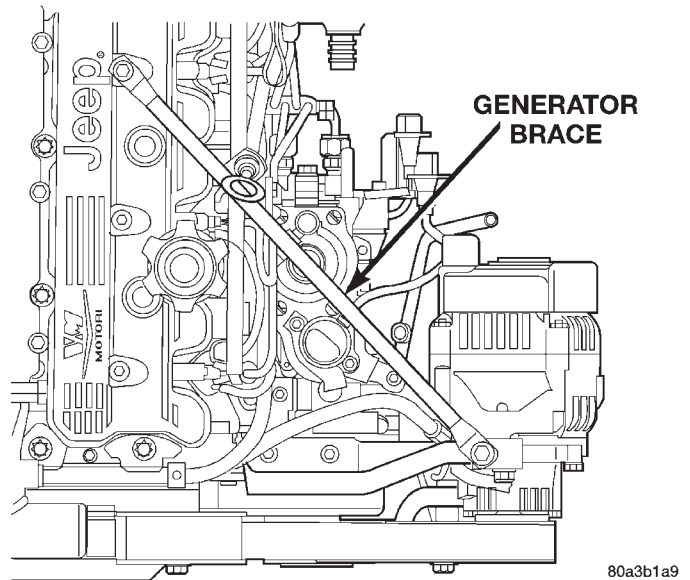

Fig. 13 Generator Brace
- (2) Drain the cooling system (refer to Group 7, Cooling).
- (3) Discharge the air conditioning system, if equipped (refer to Group 24, Heating and Air Conditioning for service procedures).
- (4) If equipped with air conditioning, remove the A/C lines at the compressor and cap (refer to Group 24, Heating and Air Conditioning). Remove A/C line bracket attached to cylinder head cover, and move A/C lines away from cylinder head.
- (5) Remove generator support brace (Fig. 13).